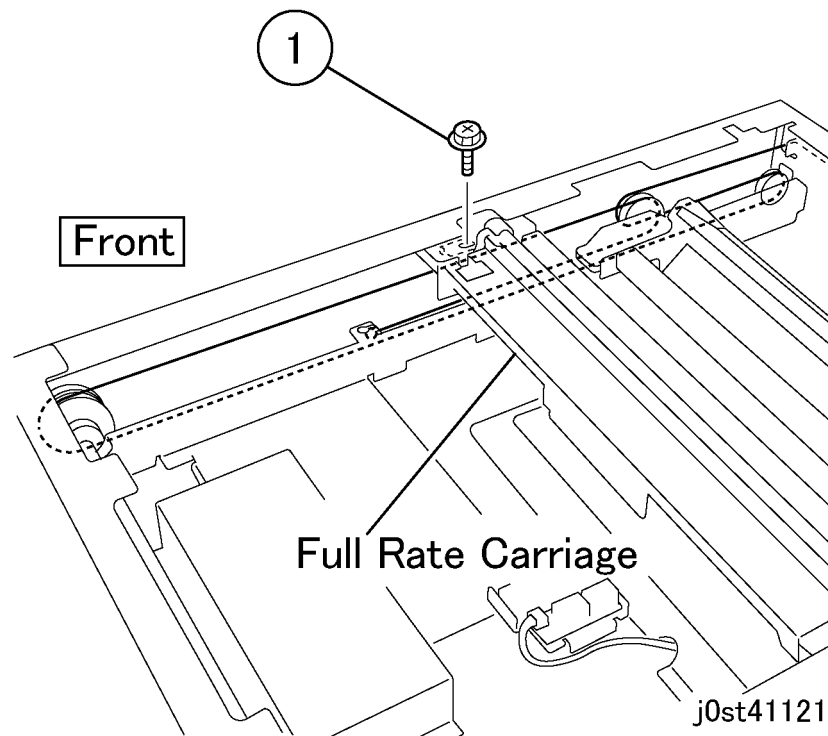

Figure 11 Installing the Carriage Cable at the front (j0st41121)
4. Fix the Full Rate Carriage at the front side. (Figure 11)